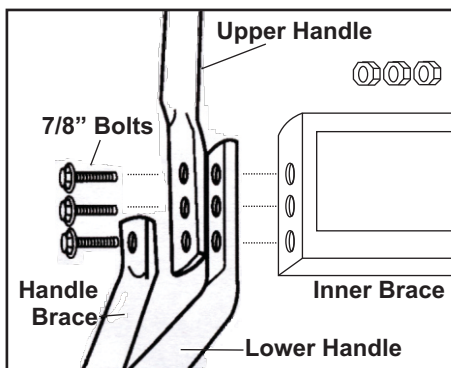

FIGURE 1: Use two factory-installed bolts and nuts, plus four bolts and nuts included in the hardware kit to install the handle.
- A. Remove the bolt and nut securing the left side handle brace to the lower handle and inner brace (see Figure 1).